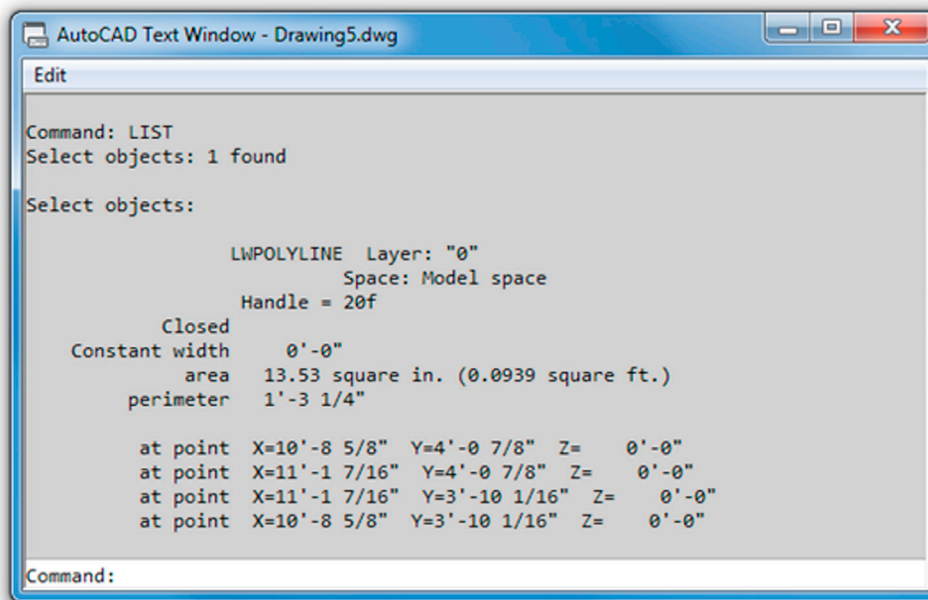

FIGURE 2.13 List command AutoCAD text window.
Step 3. Select your object (it becomes dashed) and press Enter. The command line in the form of a text window appears mid-screen. Look it over and close it (X, upper right, or just press F2) when done. What mine said about an arbitrary rectangle is shown in Fig. 2.13.